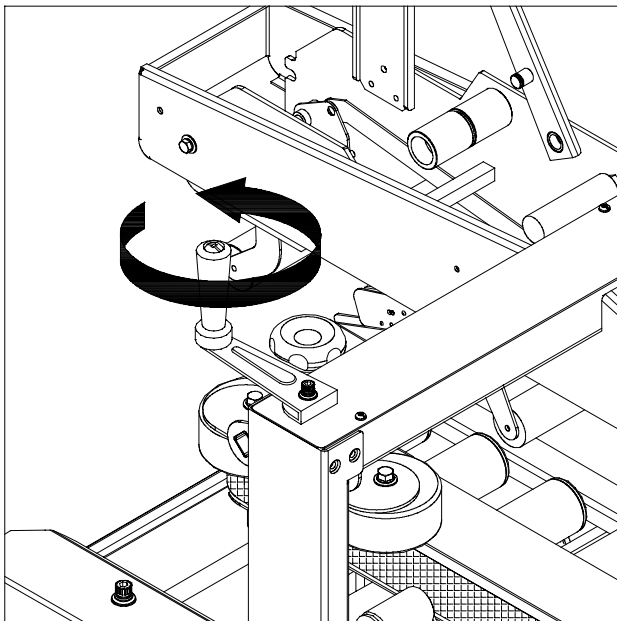

FIGURE 2-1
HEIGHT ADJUSTMENT: Once both tape heads are loaded with tape, the upper tape head can be positioned for the box height being sealed by means of the height adjustment crank. Turn (H) clockwise to decrease height or counter-clockwise to increase height. [Fig 2-1]